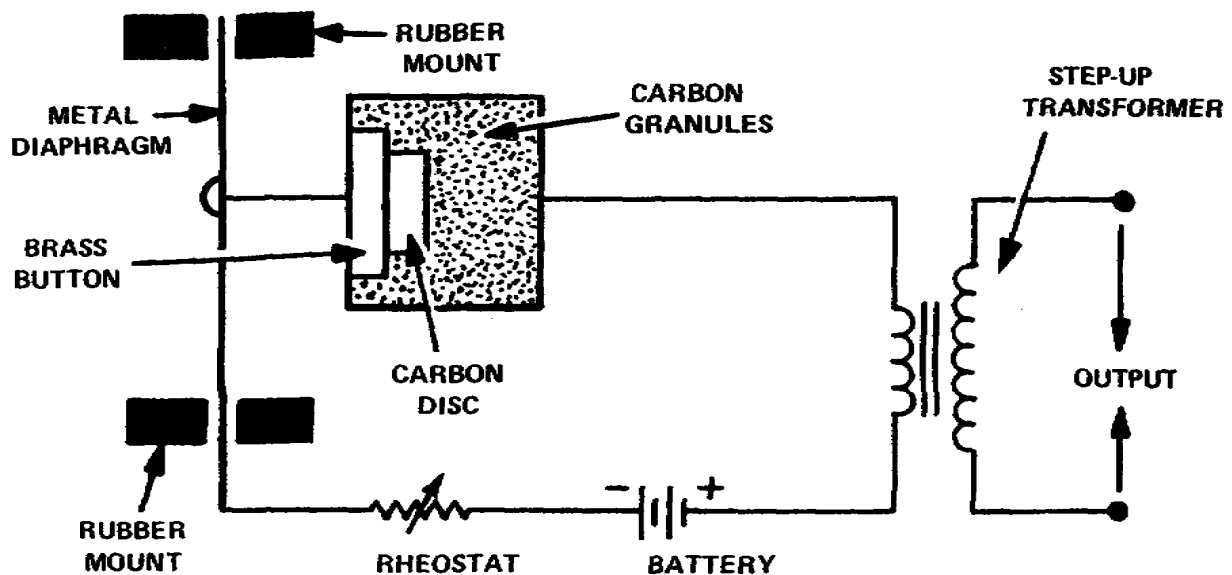

Figure 2-25. Carbon microphone
2. **Carbon Microphone.** This microphone is activated by carbon granules, and is held in a container (a brass cup) attached to a metallic diaphragm (fig 2-25). Sound waves striking the diaphragm cause a change in contact resistance among the granules. This change in contact causes a current from a battery, connected in series with the carbon button (brass cup), and the input of a transformer to vary in amplitude. The result is a current waveform similar to an acoustic waveform striking the diaphragm. After leaving the output of the transformer, the sound becomes amplified and reproduced. This principle of operation causes a high internal noise making the carbon microphone limited in its usage. All telephone receivers use carbon microphones because telephone transmissions require only intelligibility and voice clarity.